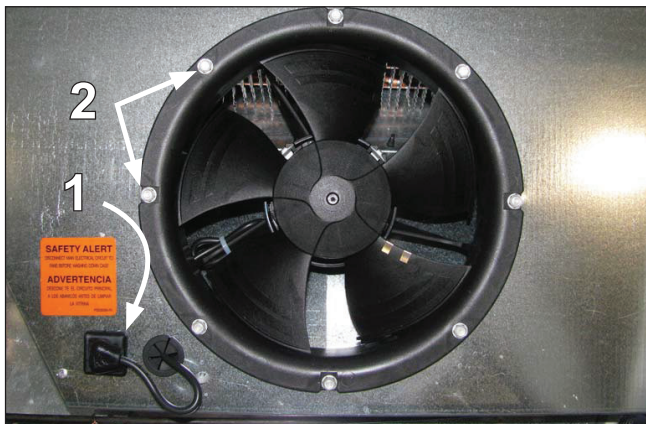

Fig. 15 Fan basket
1. Unplug the fan motor (Fig. 15) from the receptacle on the exterior of the fan plenum. Push the power cord back through the plenum opening.